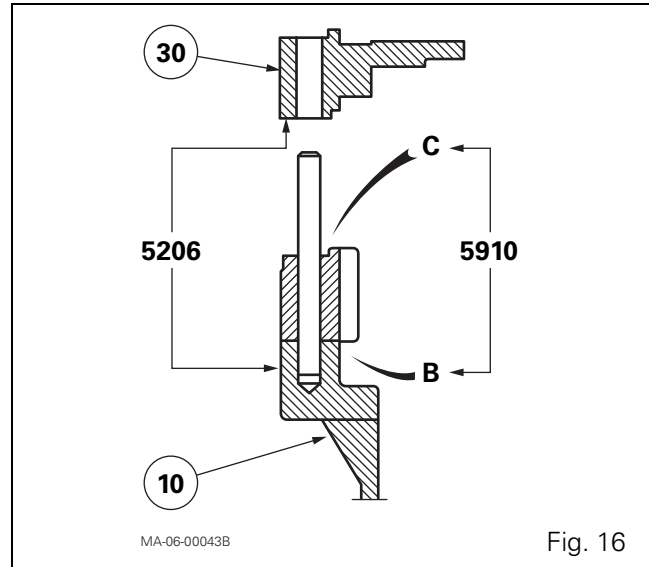

Fig. 16
35. Clean the mating faces of the trumpet housing (10), the ring gear and the brake plate with solvent. Remove all traces of the previous sealing product. Dry the components.
36. Smear (Fig. 16):
- the mating faces of the trumpet housing (10) and the brake plate (30) with Loctite 5206 sealant or equivalent;
- angles B and C of the trumpet housing (10) and the brake plate (30) with a silicone seal (Loctite 5910 or equivalent).